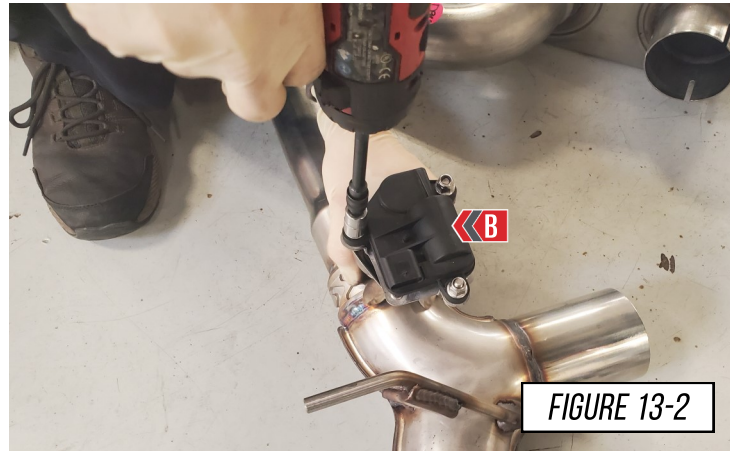

FIGURE 13-2
Next install the OE valve motor (B), as shown in **Figure 13-2**.